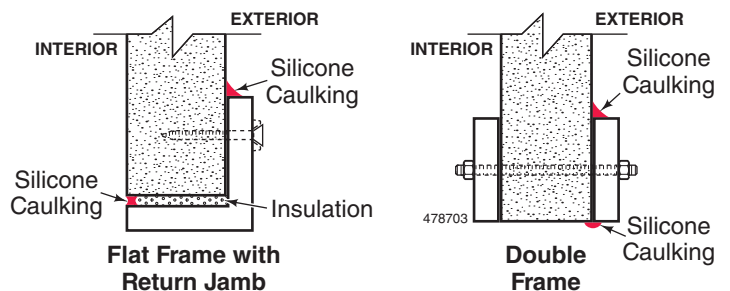

Figure 10
11. Seal with *Silicone caulking* around the frame and top after tightening the screws. See *Figure 10*. On doors with return jambs, first fill any cavities between the jamb and the wall with insulation or backer rod.